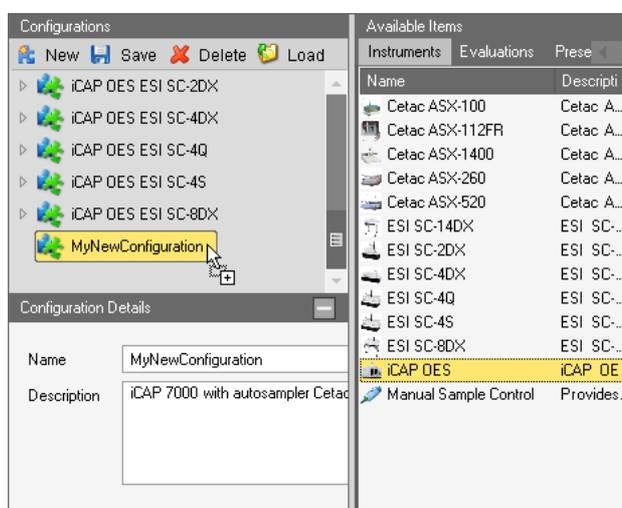

Figure 3-9. Add iCAP OES to your Configuration
5. Drag *iCAP OES* from the **Instruments** tab to your new Configuration and drop when **+** is shown, see Figure 3-9.